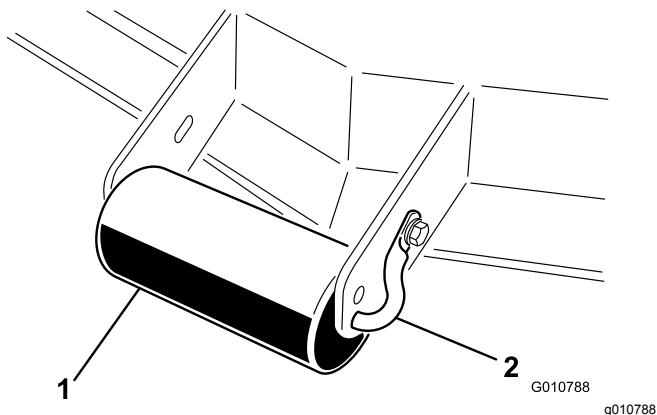

Figure 11
1. Remove the capscrew and nut securing the roller shaft to the cutting unit bracket (Figure 11).